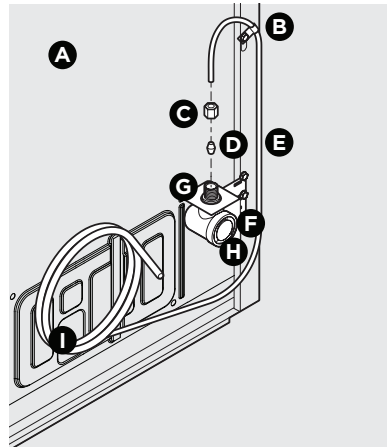
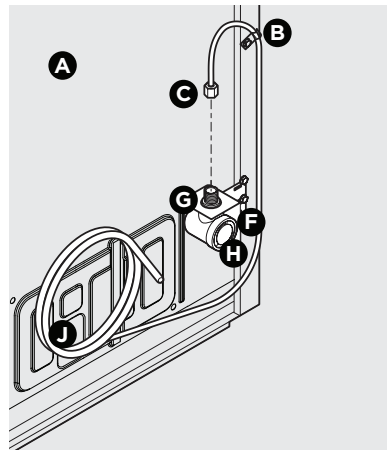

Figure 1
Figure 2
4. If you use **copper tubing** - Slide the brass compression nut and then the ferrule (sleeve) onto the water supply line. Push the water supply line into the water valve inlet as far as it will go ($\frac{1}{4}$ "/6.4 mm). Slide the ferrule (sleeve) into the valve inlet and finger tighten the compression nut onto the valve. Tighten another half turn with a wrench; DO NOT overtighten. See Figure 1.
If you use **braided flexible stainless steel tubing** - The nut is already assembled on the tubing. Slide the nut onto the valve inlet and finger tighten the nut onto the valve. Tighten another half turn with a wrench; DO NOT overtighten. See Figure 2.
B	Steel Clamp (Fig. 1: $\frac{1}{4}$ "; Fig. 2: $\frac{1}{2}$ ")